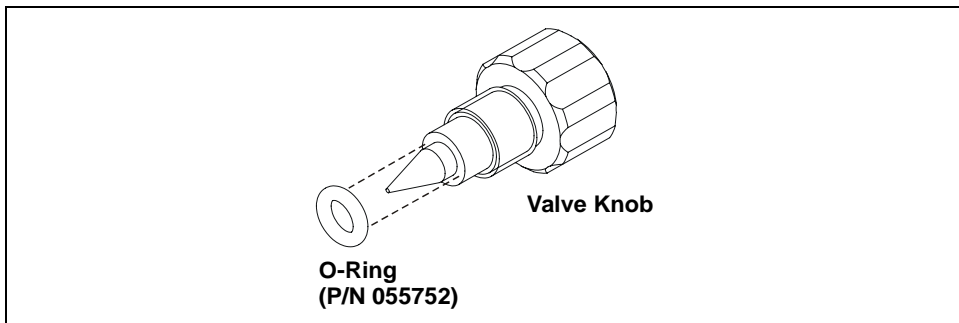

Figure 5-17. Waste Valve or Priming Valve O-Ring Replacement
4. If the O-ring is removed with the valve knob in Step 3, pull the O-ring off the end of the knob (see Figure 5-17). If the O-ring is not removed with the valve knob, insert a thin object (for example, the bent end of a paper clip) into the cavity in the pump head and carefully pull out the O-ring. **Do not scratch the cavity.**